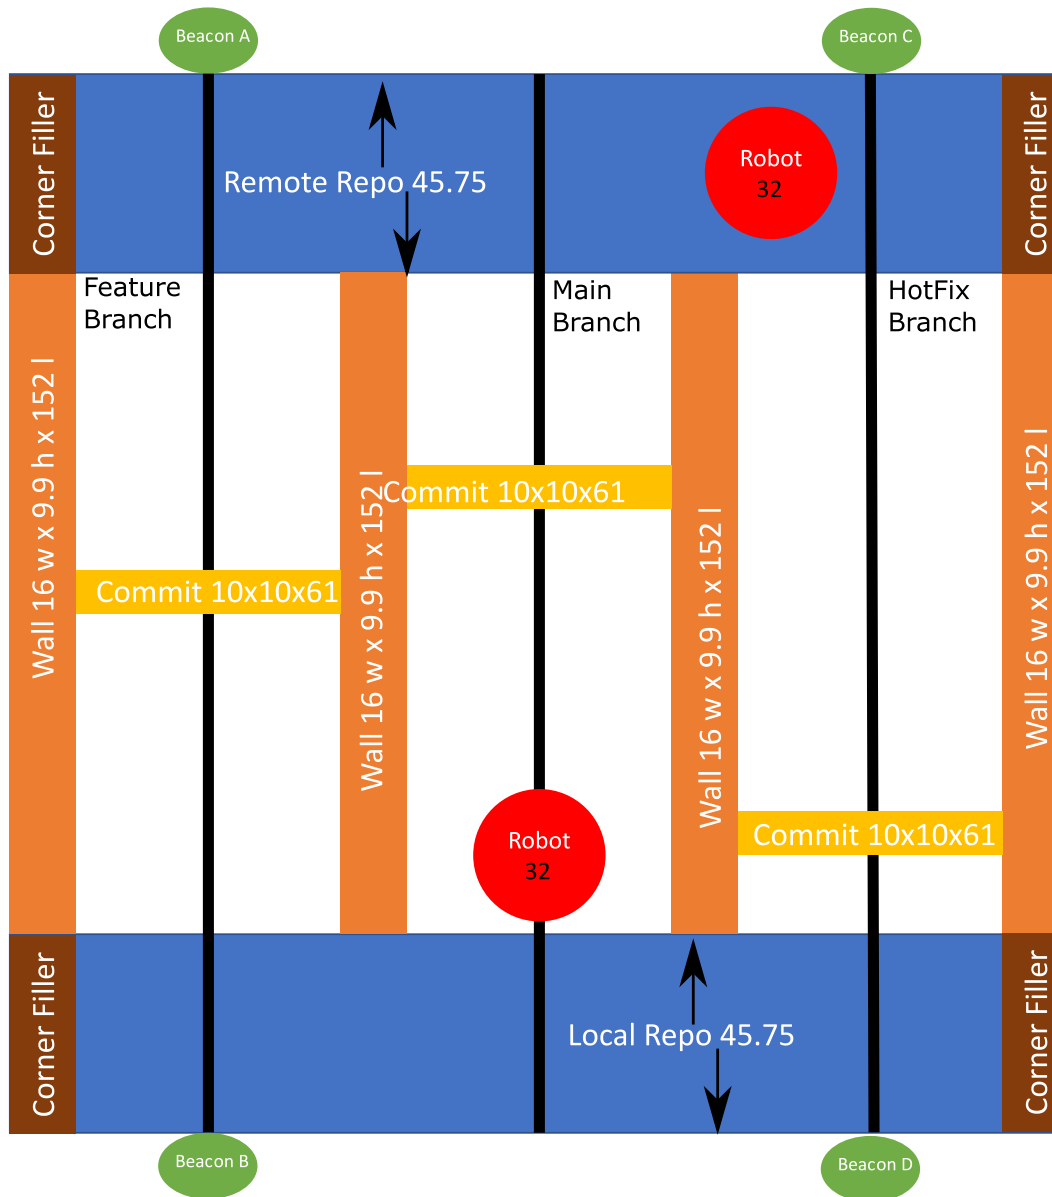

Figure 1: Overhead view of the Hub. All dimensions in cm and approximate. Refer to the actual field for exact dimensions.
- The Hub is an approximately 244×244 cm area with exterior walls 8.25 cm tall. A top view is shown in Figure 1.
- The Hub is divided into 3 BRANCHs, Develop, Main & Hotfix, bounded by walls, to be used by Local and Remote as shown in Figure 1.
- At the beginning of the Game, each team will place their DEV within their REPO region along the center line of the leftmost BRANCHs (refer to Fig. 1) and with an orientation designated by a member of the teaching staff.